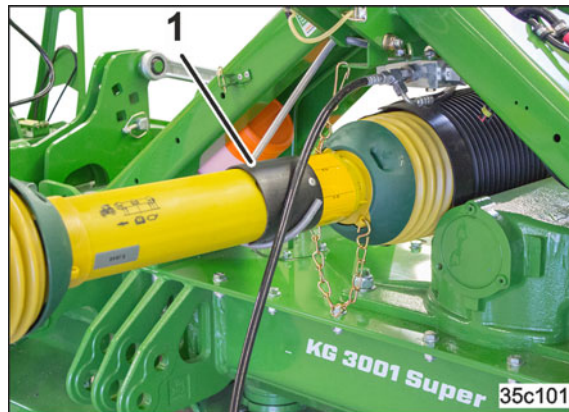

Fig. 84
5. Hook the universal joint shaft into the bracket (Fig. 84/1).